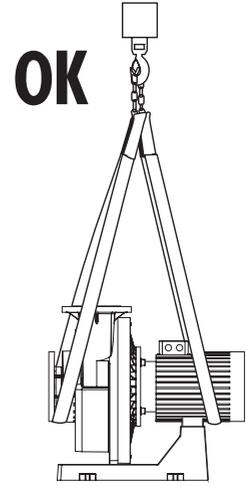

FIG. 3
**Note:** The motors are supplied with eye bolts that should not be used to lift the entire pump assembly. See fig. 1. The pumps can only be lifted using nylon straps attached to a hook as shown in fig. 3.